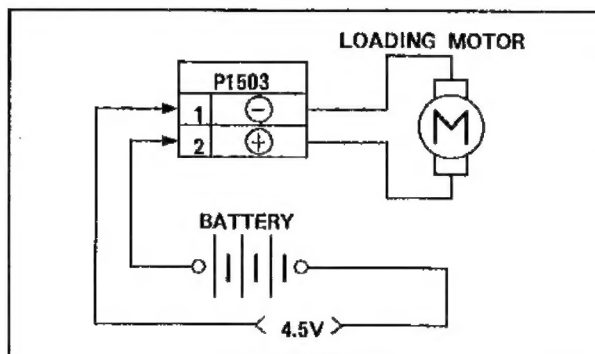

Fig.G1
- Connect the battery (Manganese-Type (AA)(R6) 3pcs./+4.5V) to P1503 as shown in Fig.G1.